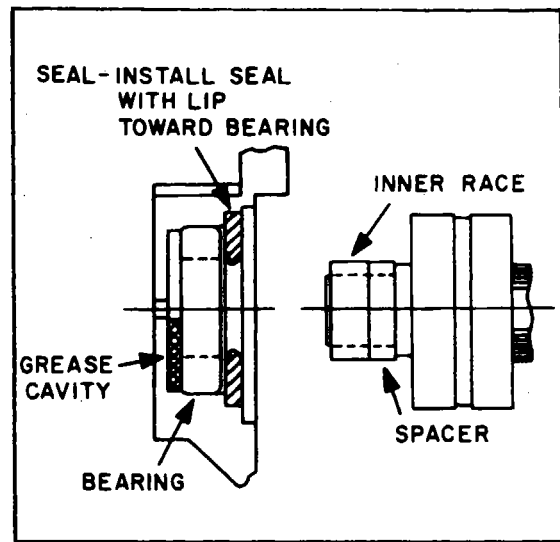

Figure 11-45. Slip Ring End Bearing Assembly
- e. Install the slip ring end bearing and oil seal. Make sure the lip of the oil seal is toward the bearing and stake the seal in place. Correct assembly of bearing, seal, inner race and spacer is shown in Figure 11-45.